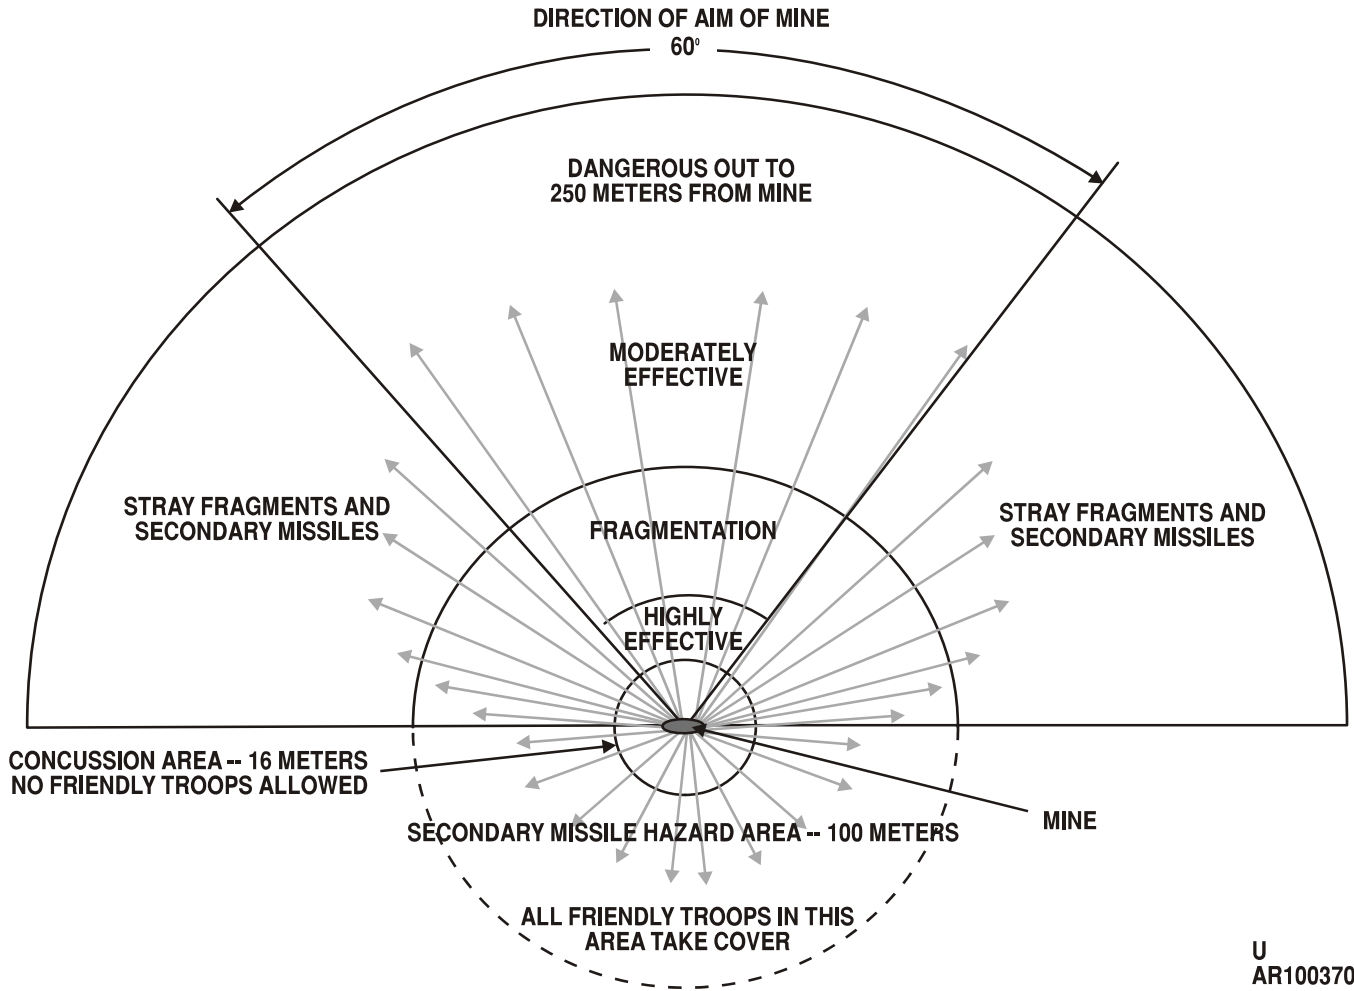

Figure 2-9. Casualty and danger areas of antipersonnel mine M18A1 with electric initiation system.
(1) *Fragmentation.* Mine M18A1 delivers 700 steel balls in a fan-shaped pattern approximately 2 meters high and 60 degrees wide at a range of 50 meters (fig. 2-9). These balls are effective up to a range of 100 meters and are dangerous up to 250 meters in front of the mine.
(2) *Backblast.* Within an area of 16 meters (fig. 2-9) to the rear and sides of the mine, backblast can cause injury by concussion and secondary missiles. Up to 100 meters to rear and sides of mine, all friendly personnel must be under cover for protection from secondary missiles.
- (1) Remove mine and accessories from bandoleer. Read instruction sheet attached to flap of bandoleer.
**POSITION MINE SO THAT FRIENDLY TROOPS TO REAR AND SIDE OF MINE (FIG. 2-9) WILL NOT BE ENDANGERED. FIRING POSITION SHOULD BE AT LEAST 16 METERS TO REAR OR SIDES OF MINE.**
- (2) Turn legs downward and spread about 45-degrees. Twist legs so that one protrudes ahead of the mine; the other, behind mine. Position mine with surface marked FRONT TOWARD ENEMY and arrows on top of case pointing in direction of enemy or desired area of fire.